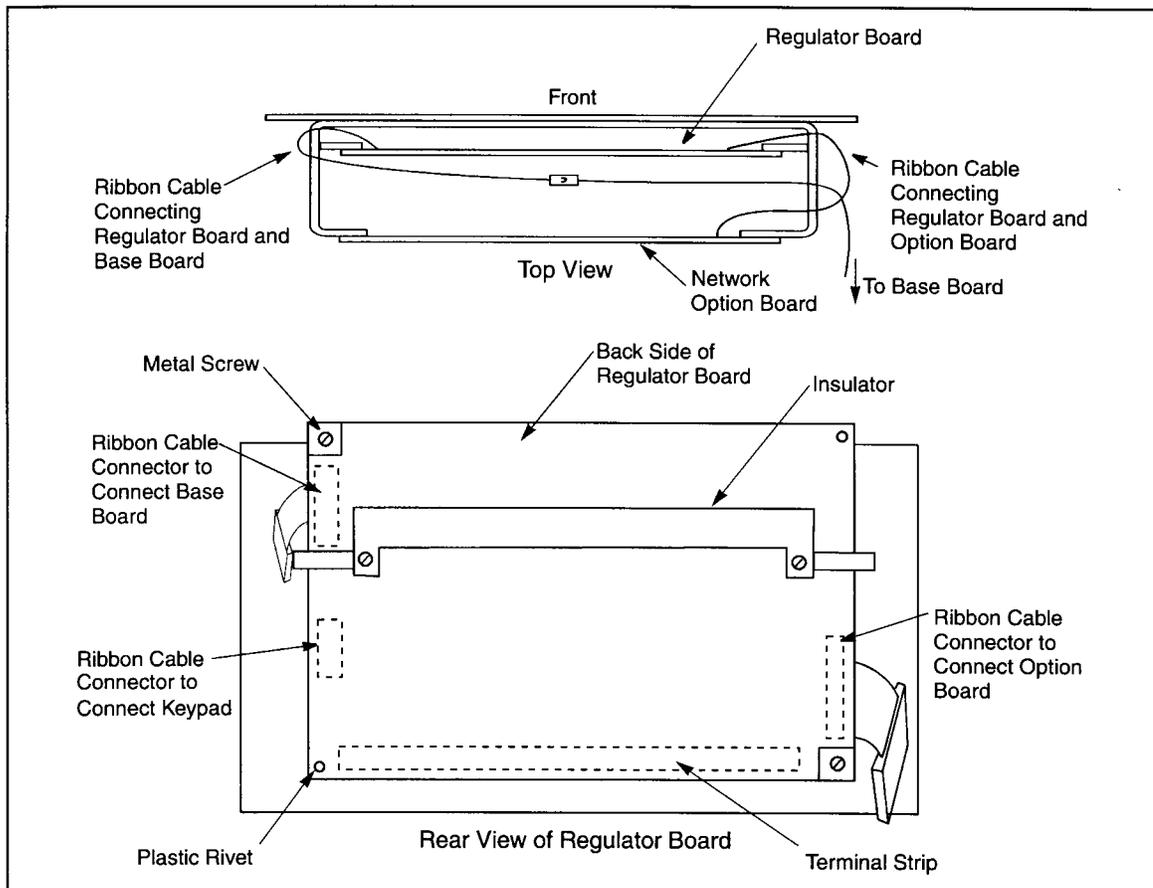

Figure 2.10 – Regulator Board's Connection to Option Board, Keypad and Base Board
- Pull the keypad assembly partly out of the drive. Spread the retaining clips on the Regulator board ribbon cable (on the right side) to disconnect it from the base board. See figure 2.10.